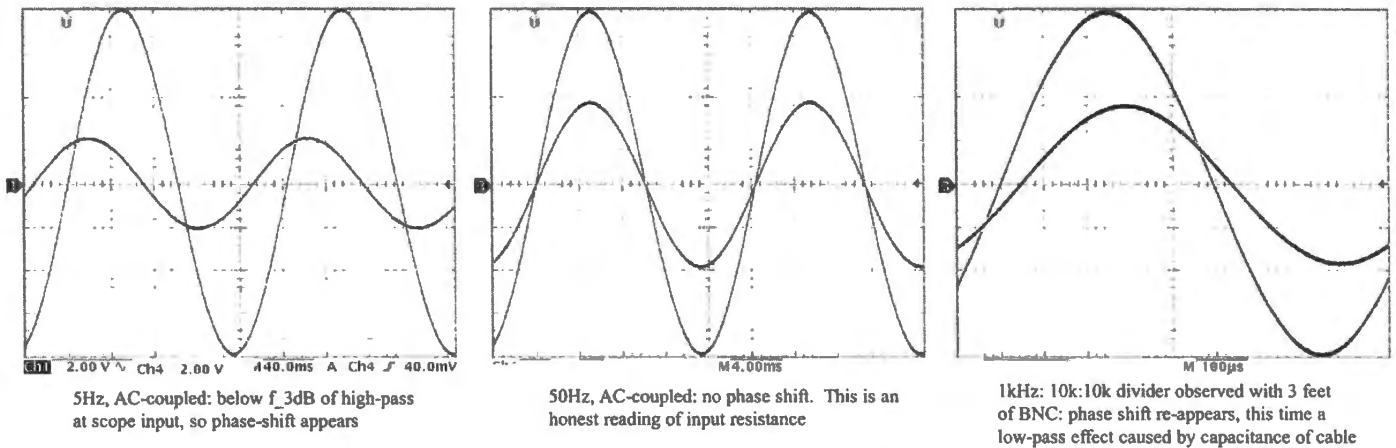

Figure 3W.6 Using sinusoid, look for zero phase-shift to be sure you are reading R_{IN} .
- At a very low frequency, if you AC-couple the signals, you may see a phase shift that is a pure scope artifact. AC-coupling the scope input is a good idea, if you use the method of centering the scope display on the 0% mark: since the lower part of the waveform goes off-screen, a *DC offset* in the signal can deceive you. But when you use AC-coupling you can see the blocking-capacitor's effect, at extreme low frequencies: below about 10Hz.¹ This effect is visible in the leftmost image of Fig. 3W.6.
- At higher frequencies, you may see phase shift (lag, this time) caused by a low-pass filter formed by the combination of the test resistor and the stray capacitance of the BNC cable and scope channel with which you are watching point B. This effect is visible in the rightmost image of Fig. 3W.6.